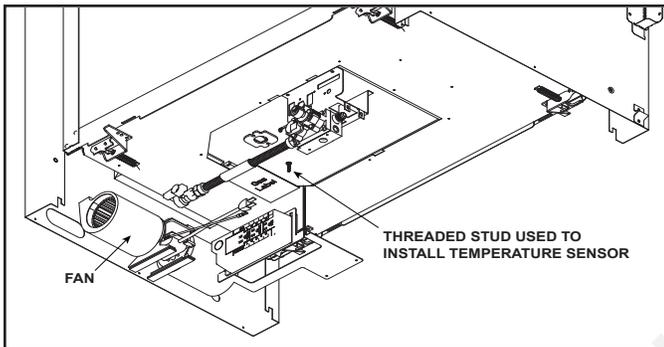

Figure 2.2 Blower Location
1. Install and wire the blower in appliance as shown in Figure 2.2.